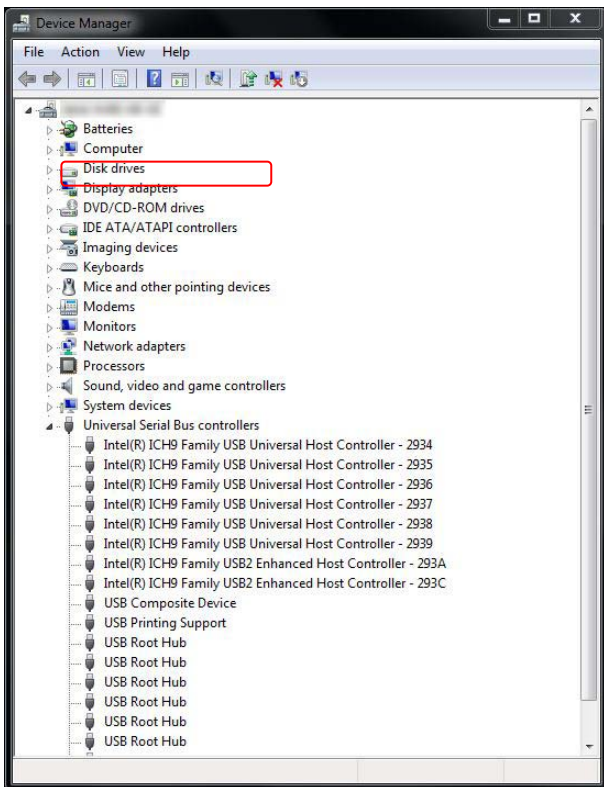

Figure 59: Device Manager
- The printer device will be shown under Universal Serial Bus controllers > USB Printing Support. See Figure 59.